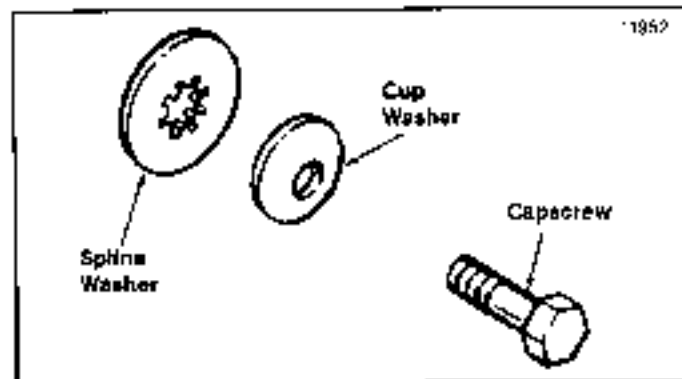

Figure 18. Blade Hardware
1. Reinstall the blade(s) with the tabs pointing upward. Install the splino washer, cup washer, and cap screw (see figure 18). Be sure the splines on the splino washer are engaged with the shaft splines. Splino washer should be installed with the collar up (inside mower blade hole). Be sure cup washer is installed with the concave side up.